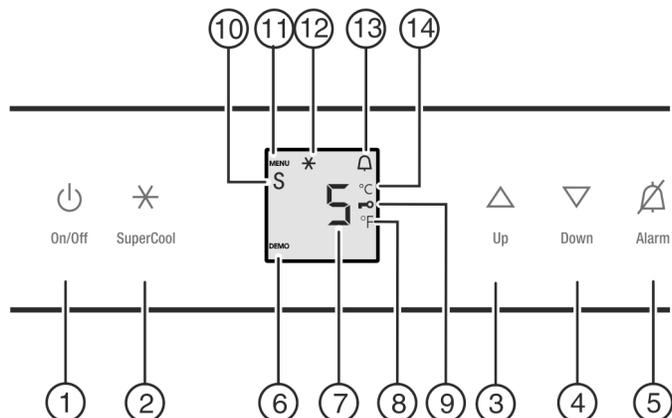

Fig. 2
- ▶ Press the On/Off button *Fig. 2 (1)*.
- ▶ To activate setting mode: Press and hold the SuperCool button *Fig. 2 (2)* for approx. 5 s.
- ▷ The Menu symbol *Fig. 2 (11)* lights up.
- ▶ Using Up button *Fig. 2 (3)*/ Down button *Fig. 2 (4)* select °.
- ▶ To confirm: Briefly press the SuperCool button *Fig. 2 (2)*.
- ▶ To exit setting mode: Press On/Off button *Fig. 2 (1)*.
- ▶ Select setting mode: Press and hold the SuperCool button *Fig. 2 (2)* for approx. 5 seconds.
- ▶ Using the Up *Fig. 2 (3)* or Down button *Fig. 2 (4)*, select **c**.
- ▶ Press the SuperCool button *Fig. 2 (2)* briefly to confirm.
- ▶ To switch on the child proof lock, press the SuperCool button *Fig. 2 (2)* briefly.
- ▷ The Child safety symbol *Fig. 2 (9)* lights up. **c** flashes on the display.
- ▶ To switch the child proof lock off, press the SuperCool button *Fig. 2 (2)* briefly.
- ▷ The Child safety symbol *Fig. 2 (9)* goes out. **c** flashes on the display.
- ▶ To deactivate setting mode: Press the On/Off button *Fig. 2 (1)*.
- ▶ Press Alarm button *Fig. 2 (5)*.
- ▶ To access the Sabbath mode function: Briefly press the SuperCool button *Fig. 2 (2)*.
- ▶ **To turn on** Sabbath mode, briefly press the SuperCool button *Fig. 2 (2)*.